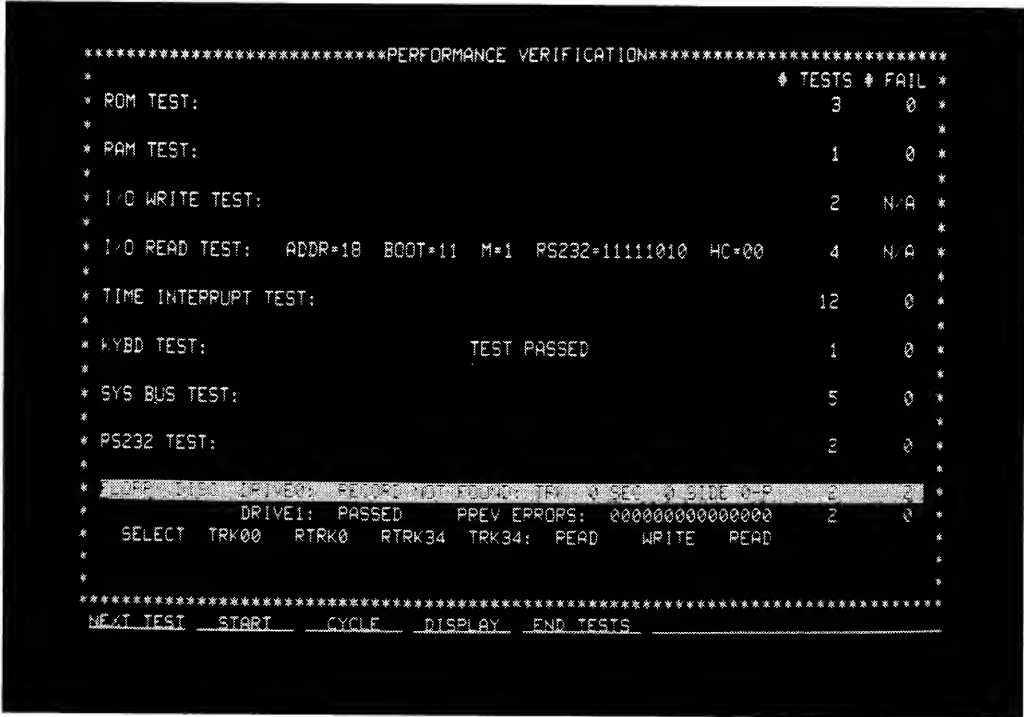

Figure 4-2. PV Test Display
- d. Press the NEXT TEST soft key until the FLOPPY DISC DRIVE test is displayed. See figure 4-2.